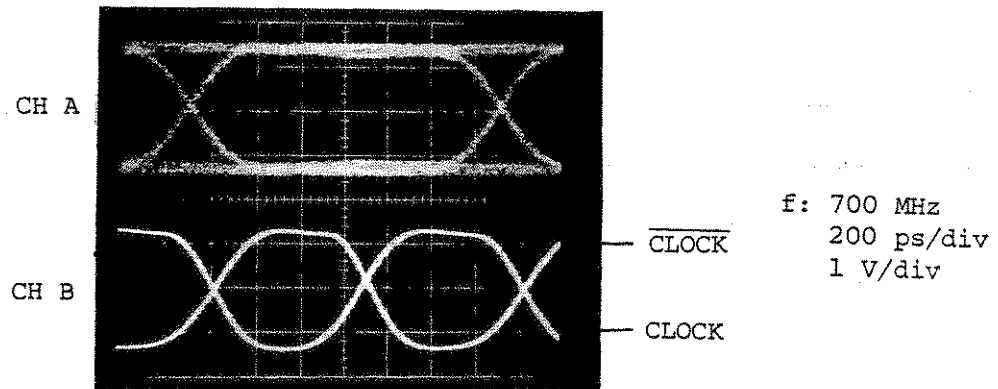

Fig. 6-13 COCK 1 Output Waveform
- 3 Set to CLOCK or $\overline{\text{CLOCK}}$ with the CLOCK 1 [POLARITY] key, and confirm that the waveform is as shown in Fig. 6-13.